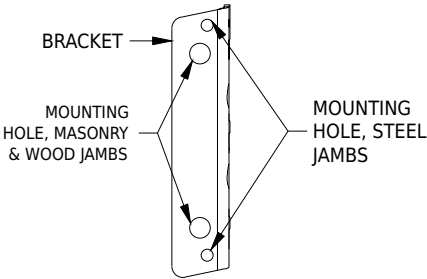

FIGURE 10: BACK OF GUIDE TO BACK OF GUIDE
-)The guides should be mounted centered about the opening, set at curtain width + 1". Back of guide to back of guide. See figure 10. Both guides must be plumb and door must be level.